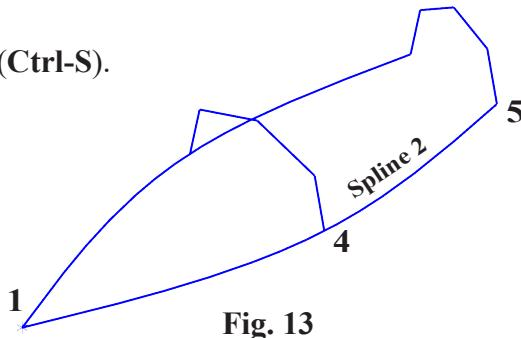

Fig. 13
Step 3. Sketch another spline across at 1, 4 and 5, Fig. 13.